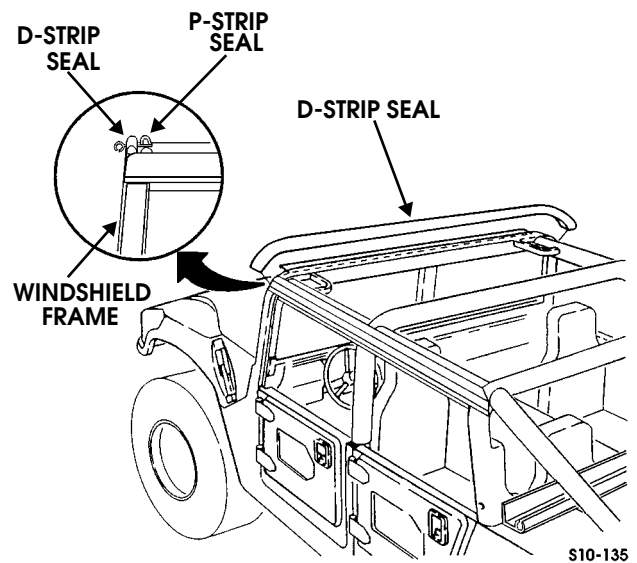

Figure 10-139: D-Strip Seal Removal
13. Remove D-strip seal from windshield frame. Do not remove P-strip seal (Figure 10-139).